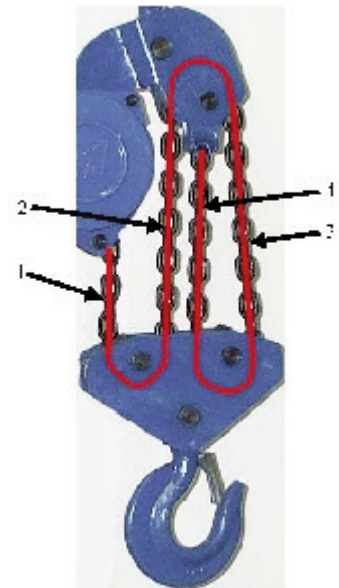

Figure 12
For new style hooks (see Figure 12):
- ### 3) For the model with four falls, perform the following while avoiding twisting of the chain (Figure 12):